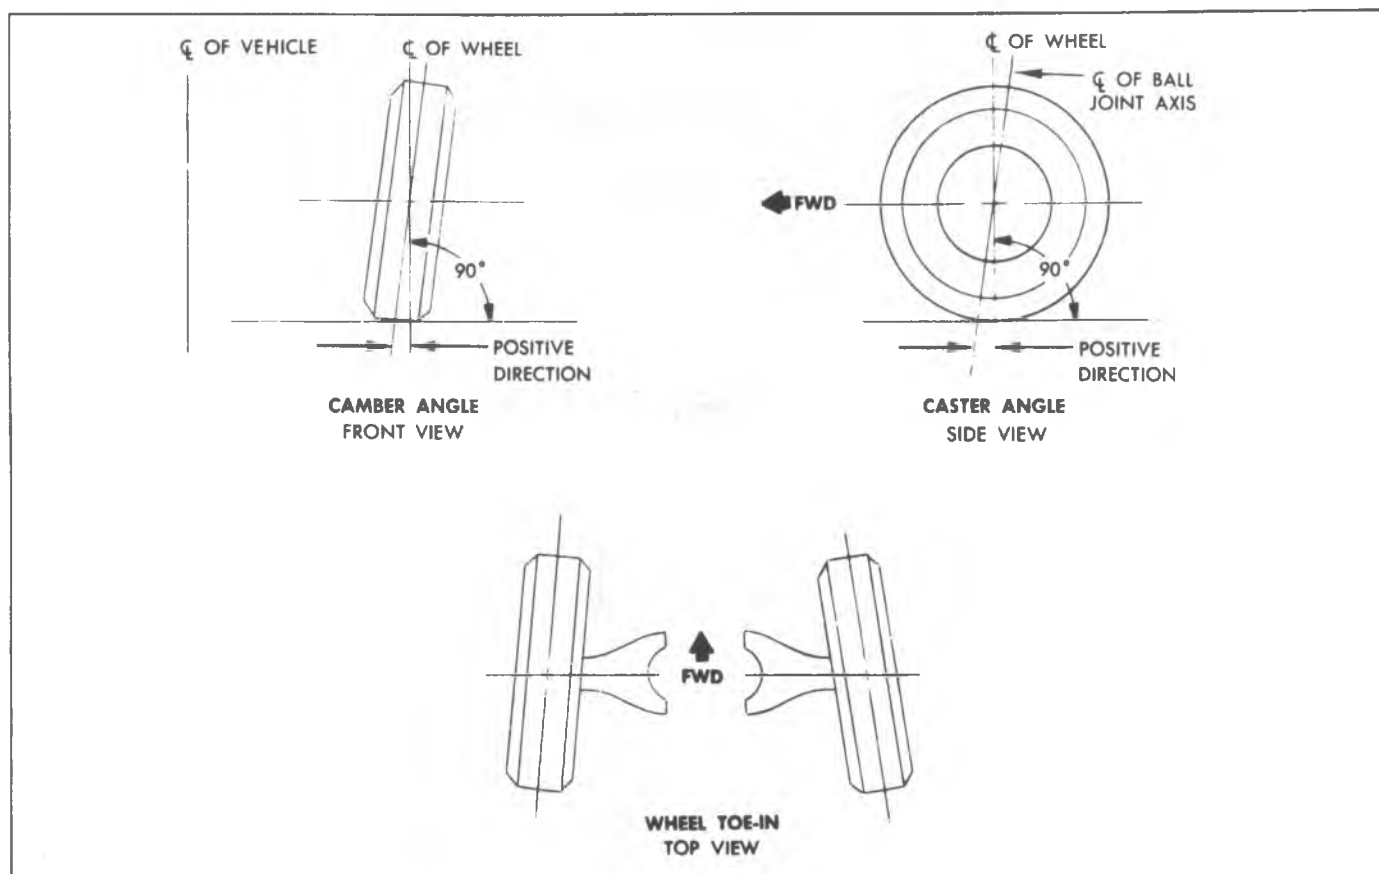

Fig. 3A-1--Caster - Camber - Toe-In
5. Check dimension A in Fig. 3A-4; if out of specifications and a correction is to be made, the correction must be made before adjusting caster.